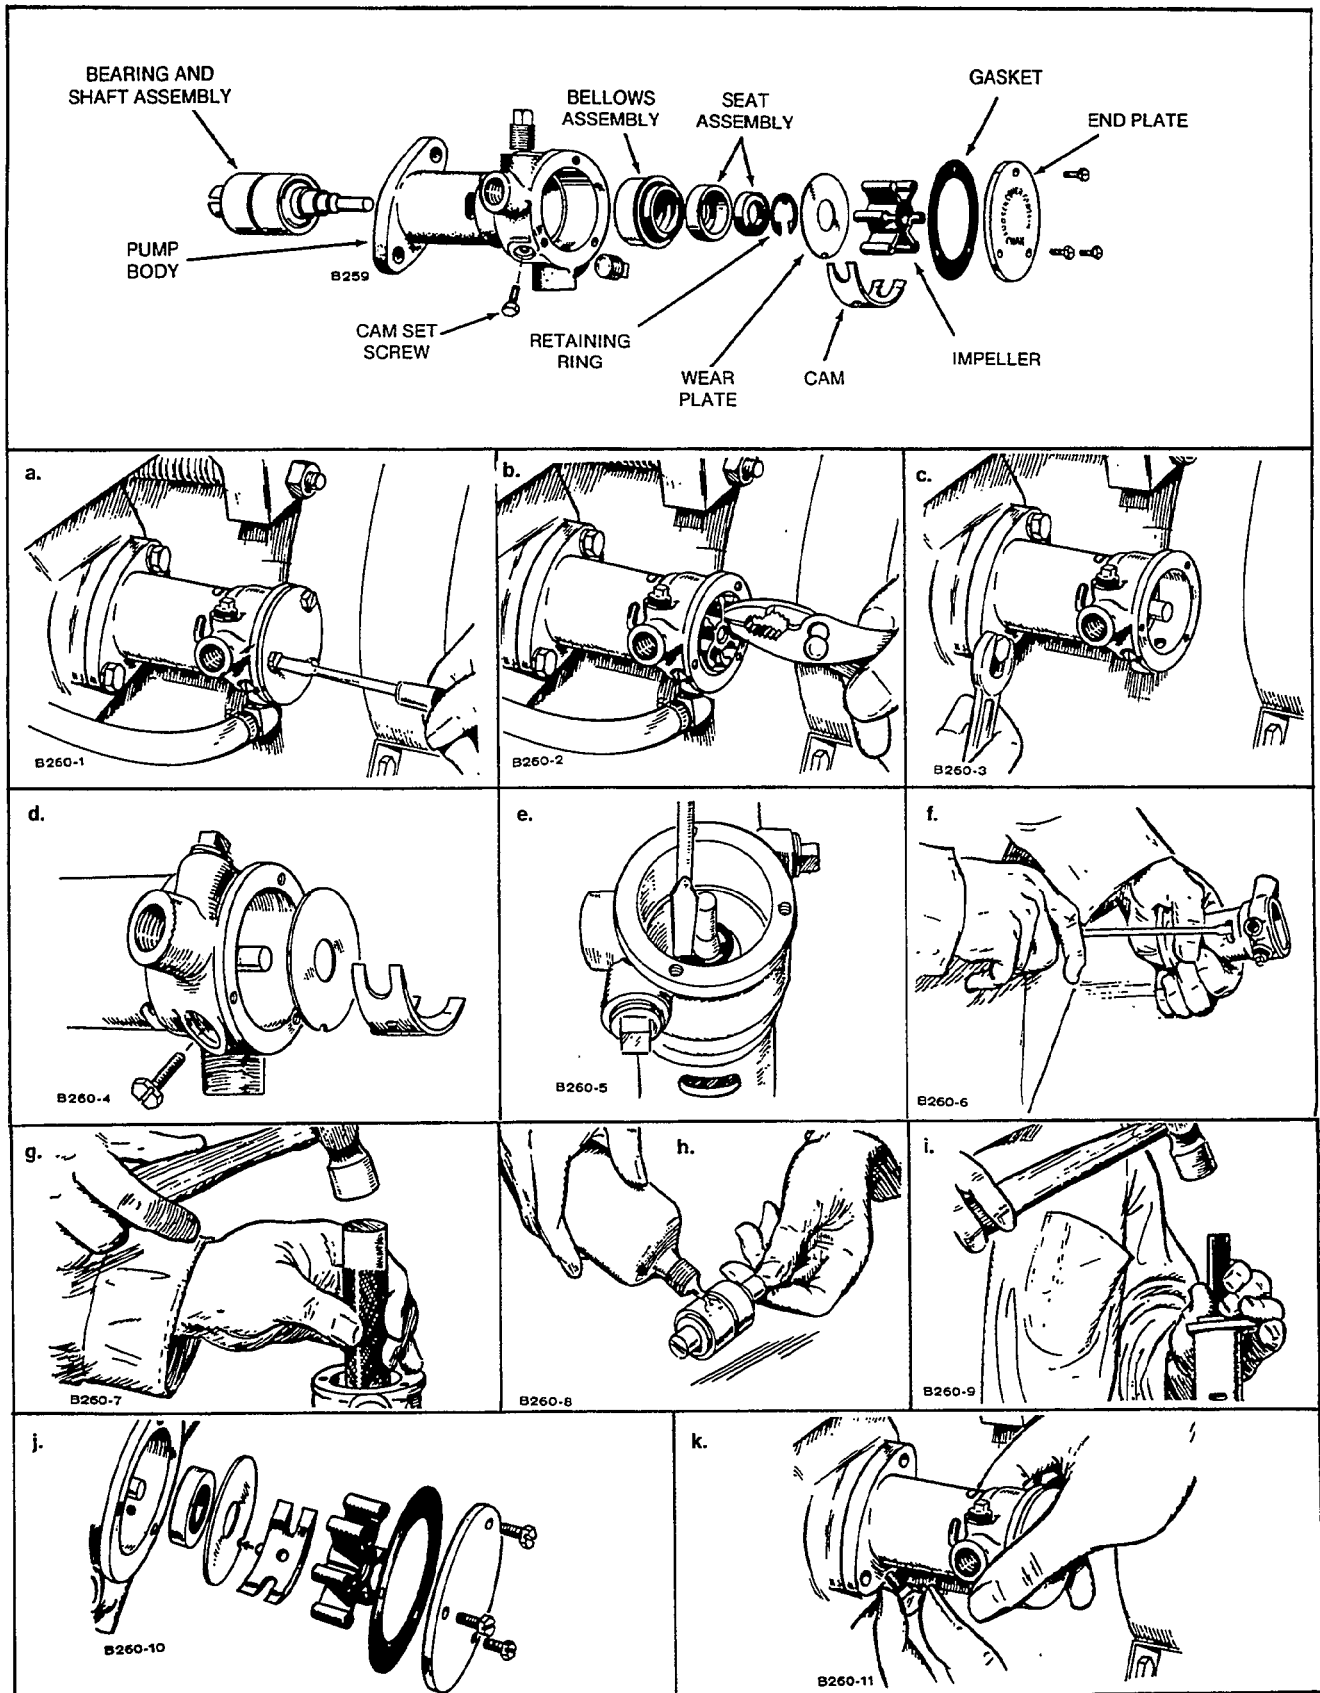

FIGURE 21. PUMP #131-0152
Water pump #131-0152 is a neoprene impeller type pump (Figure 21).
1. Remove the pump end plate screws, end plate, and gasket as shown in Figure 21, step a.